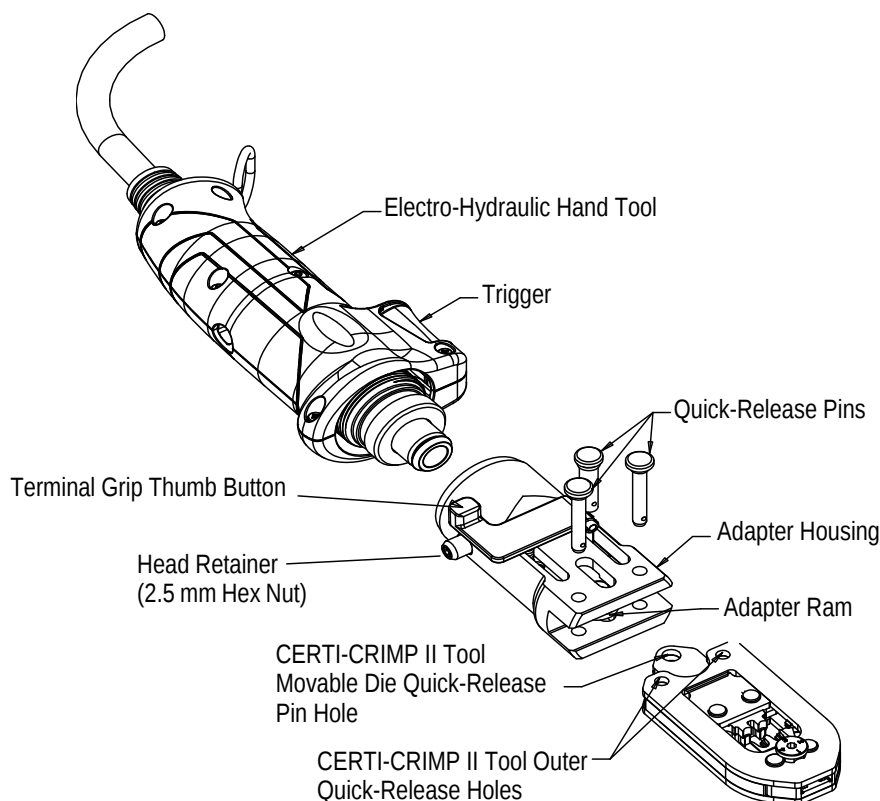

Figure 2
As supplied, the adapter assembly has three quick-release pins installed. Refer to Figure 2. The two outer pins will be used to secure the two outer housing tabs of the CERTI-CRIMP II crimp head or Modular T-Head to the adapter assembly.
1. Remove the quick-release pins (see Figure 2).
3. Insert the two outer quick-release pins through the holes in the adapter housing and the holes in the two outer tabs of the CERTI-CRIMP II crimp head or Modular T-Head. See Figure 2.
2. Press the terminal grip thumb button (Figure 2) to advance the lower tooling and hold the contact in place. Do not deform the terminal insulation or wire barrel.
Replacement parts are identified in Figure 2 and the table in Figure 3. The recommended spares should be stocked for immediate replacement. Order replacement parts (or return parts) through your